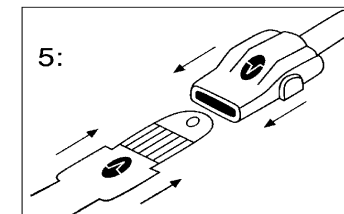

Fig. 28 Connecting patient cable and sensor
- The connector tab is now oriented on the top side of the patient's finger so that the "shiny" contacts are facing up. Mate the logo on the sensor to the logo on the patient cable. Insert the patient cable into the sensor tab until there is a tactile or audible click of connection (Fig. 28). Gently tug on the connectors to ensure a positive contact. If required, tape may be used to secure the cable to the patient.